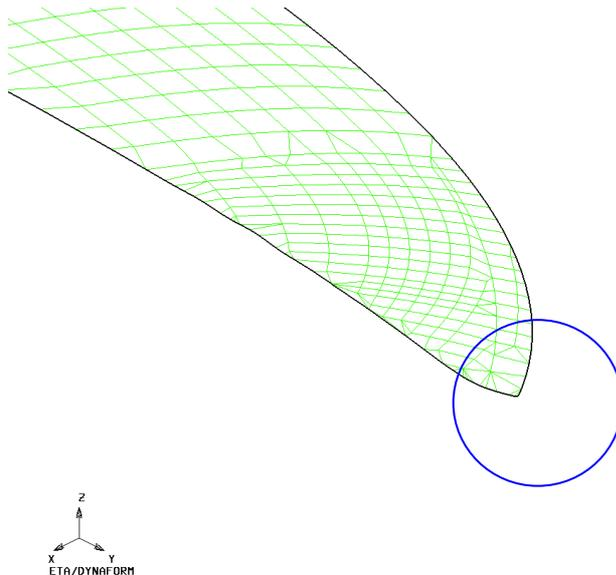

Figure 6.1.44 Sharp Corner
1. After entering the desired corner radius, click the **CORNER SMOOTH** button, and the program will highlight the boundary line of the part as shown in Figure 6.1.44.